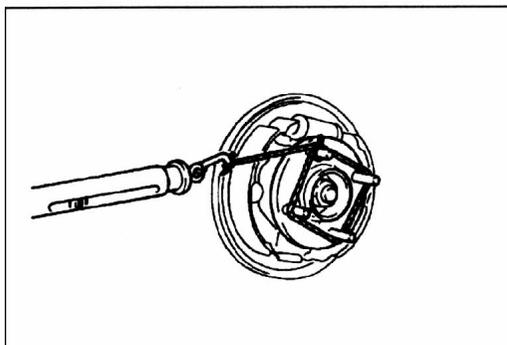

Fig.13-2
- (1) remove the brake dume.
- (2) After turning the hub a few times to seat the bearing, wind a rope around the hub bolt and turn the hub by pulling at a 90 angle with a spring balance. Measure to determine whether or not the rotary-sliding resistance of the rear hub is at the limit value.(see Fig.13-2).